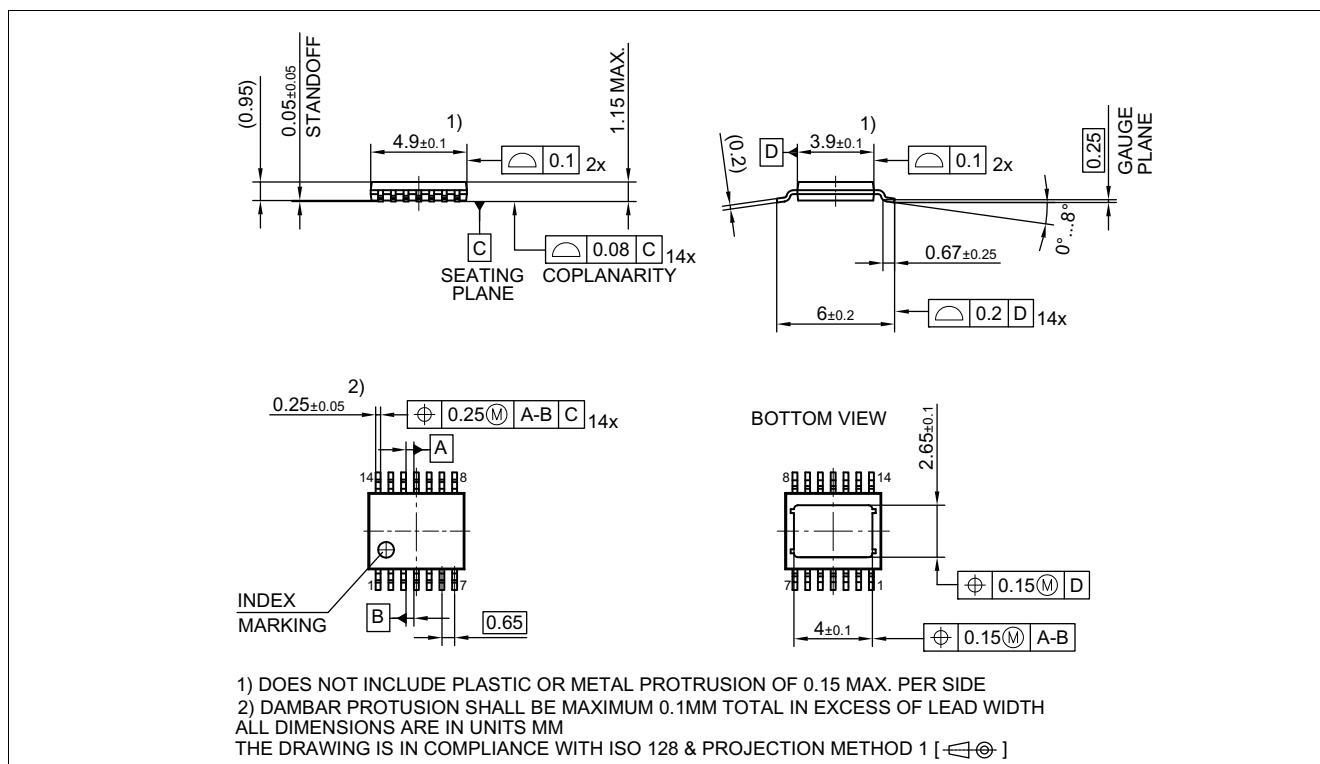
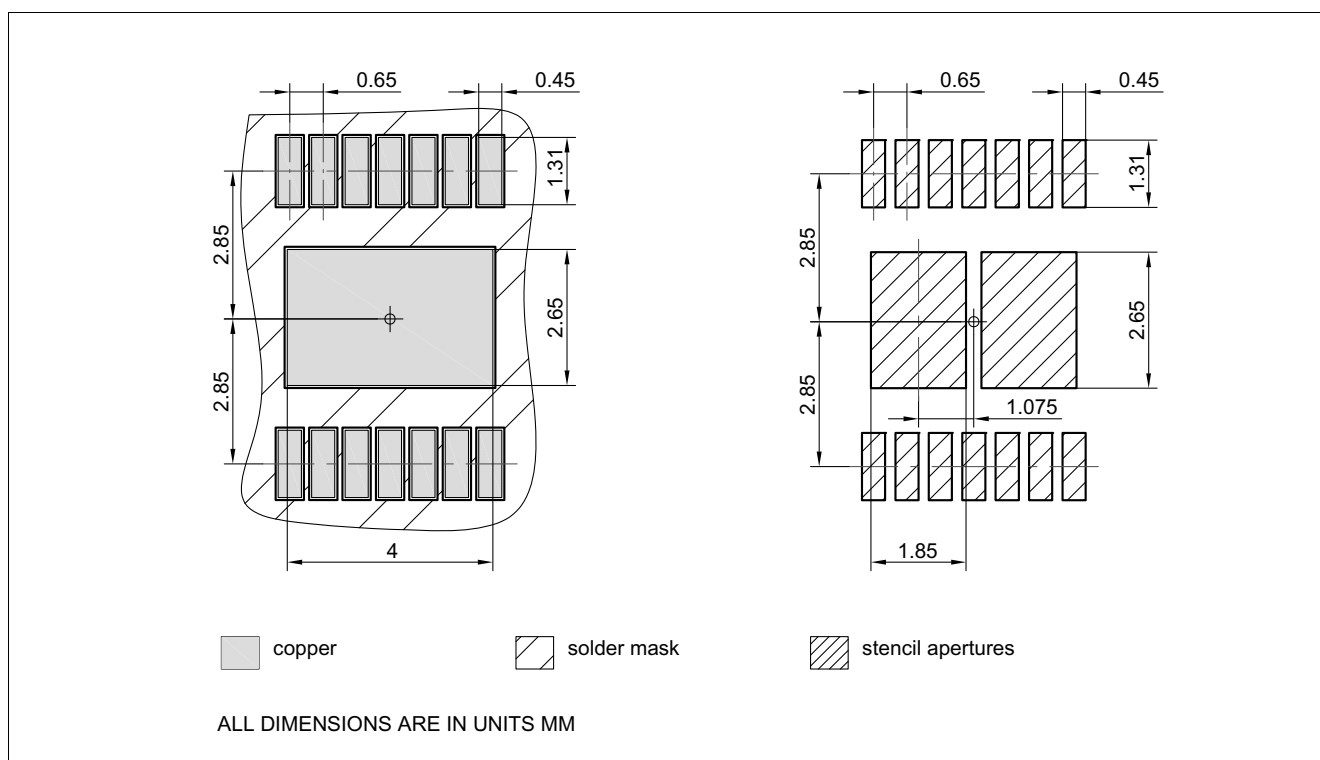

Figure 38 PG-TSDSO-14 (Thin (Slim) Dual Small Outline 14 pins) Package Outline
Figure 39 PG-TSDSO-14 (Thin (Slim) Dual Small Outline 14 pins) Package pads and stencil
1.02 , 2019-02-05	<p>Figure 9, Figure 10 updated</p> <p>Page 1: updated (figure product)</p> <p>Table 22 updated (punctuation)</p> <p>Chapter 9.3, Chapter 9.3.1 updated (typo)</p> <p>Page 1: updated (Package PG-TSDSO-14-22 \rightarrow Package PG-TSDSO-14)</p> <p>Figure 38 updated (PG-TSDSO-14-22 (Thin (Slim) Dual Small Outline 14 pins) Package Outline \rightarrow PG-TSDSO-14 (Thin (Slim) Dual Small Outline 14 pins) Package Outline)</p> <p>Figure 39 updated (PG-TSDSO-14-22 (Thin (Slim) Dual Small Outline 14 pins) Package pads and stencil \rightarrow PG-TSDSO-14 (Thin (Slim) Dual Small Outline 14 pins) Package pads and stencil)</p> <p>Table 1 updated (Parameter: Minimum Overvoltage protection ($T_J = 25\text{ }^{\circ}\text{C}$) \rightarrow Minimum Overvoltage protection ($T_J \geq 25\text{ }^{\circ}\text{C}$))</p> <p>Table 1 updated (corrected typo in table Product Summary: $I_{VS(OFF)}$: 1 \rightarrow 0.9 μA)</p> <p>Table 1 updated (Symbol: $I_{VS(OFF)} \rightarrow I_{VS(OFF)_{85}}$)</p> <p>P_6.5.20.1 updated (Symbol: $I_{VS(OFF)} \rightarrow I_{VS(OFF)_{85}}$)</p> <p>P_6.5.20.2 updated (Symbol: $I_{VS(OFF)} \rightarrow I_{VS(OFF)_{150}}$)</p> <p>P_9.7.10.27, P_9.7.10.29 updated (Note or Test Condition: formatted physical symbols as subscript)</p>